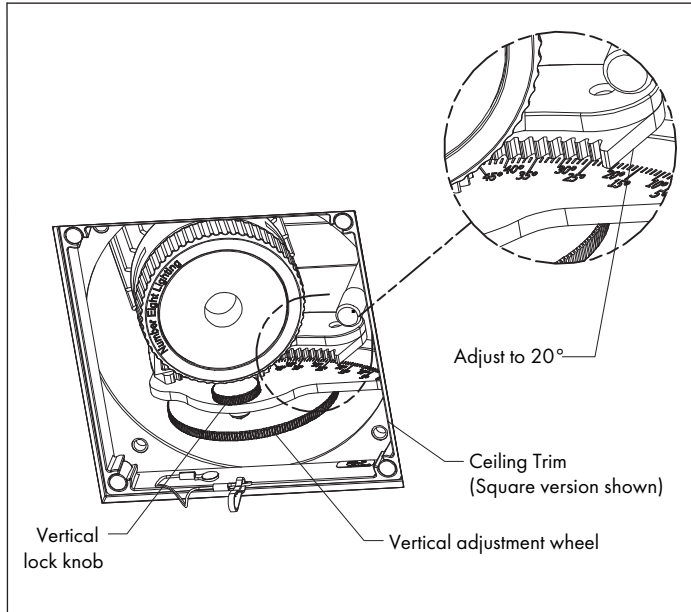

FIG 9.1 Adjust Vertical Aiming Angle
STEP 1 Unlock & adjust J2S Lamp Module to 20° vertical aiming angle for optimal wall wash performance - **FIG 9.1**.